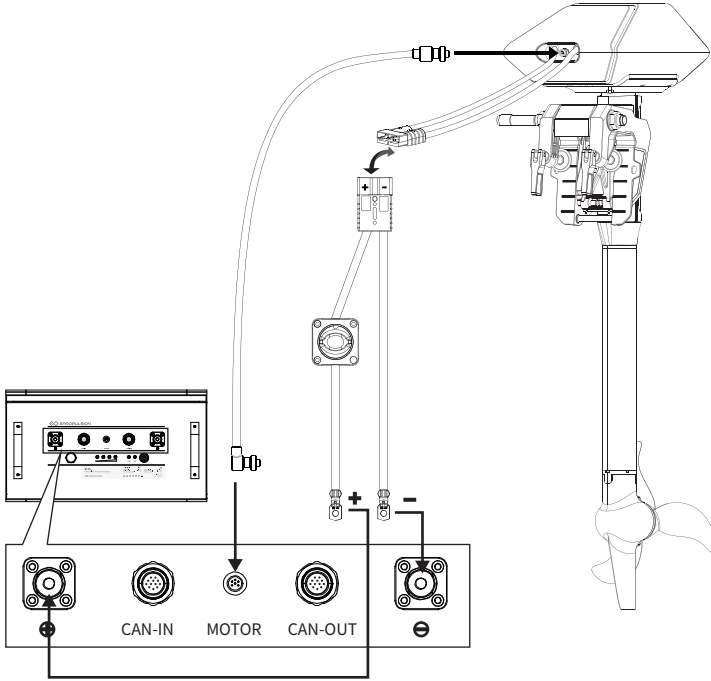

Figure 2-1
2. When connecting with ePropulsion outboard motor, in order to better obtain the battery information please use the communication cable (purchased separately) to connect the machine with the battery (refer to figure 2-1).